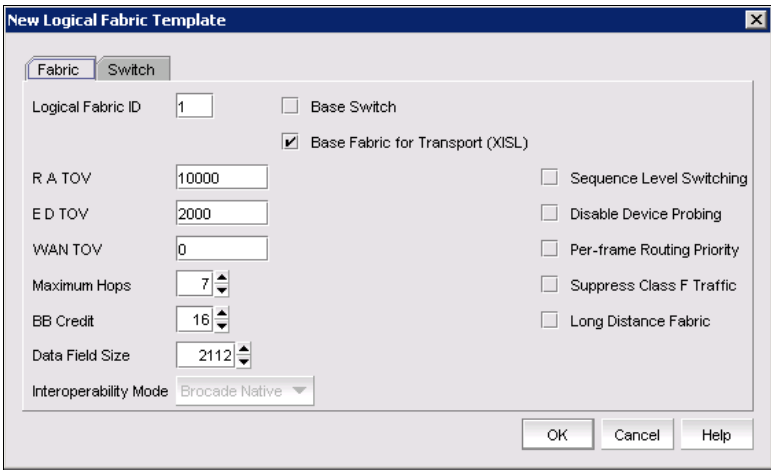

Figure 8-10 New Logical Fabric Template
2. Select the options that are required for the new fabric and click **OK** (Figure 8-10).